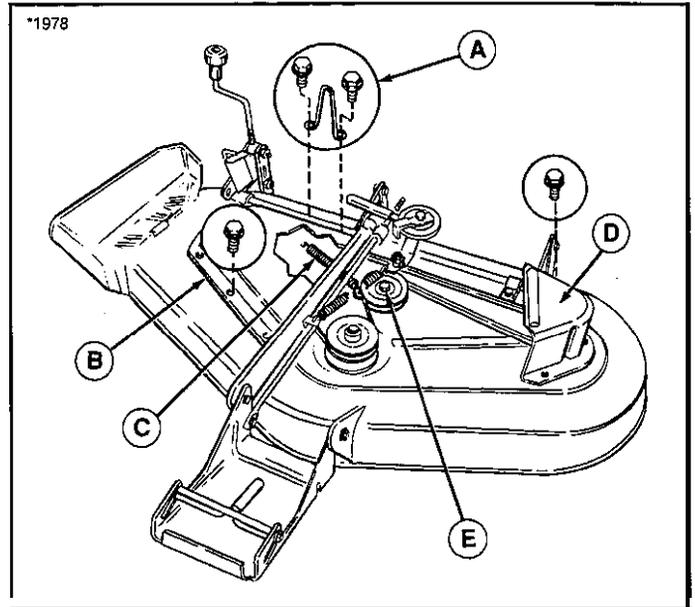

Figure 46. Mower Deck - 44" & 50"
3. See Figure 46. Remove the two capscrews securing upstop (A) and remove the upstop.
4. Remove the four capscrews securing the right-hand arbor cover (B, Figure 46). Remove three capscrews securing left-hand arbor cover (D).
5. Using a pair of locking pliers or a spring puller, remove the idler pulley spring (C, Figure 46) from slot in deck.
6. Loosen capscrew (E, Figure 46) securing the idler pulley to the bracket. The belt can now be slipped between the pulley and idler bracket hub.
8. Tighten the capscrew (E, Figure 46).
9. Reinstall spring (C, Figure 46) into its slot in mower deck.
11. Reinstall the left and right arbor covers (B and D, Figure 46) and upstop (A) using the original hardware.